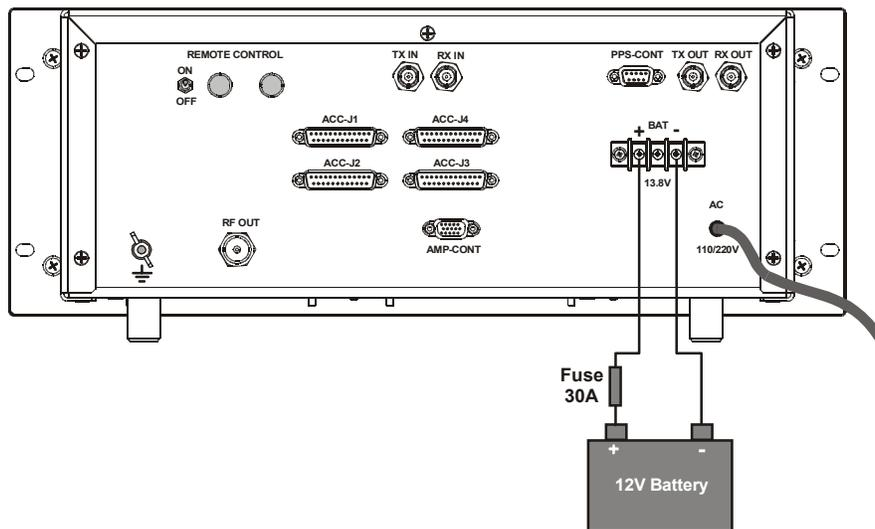
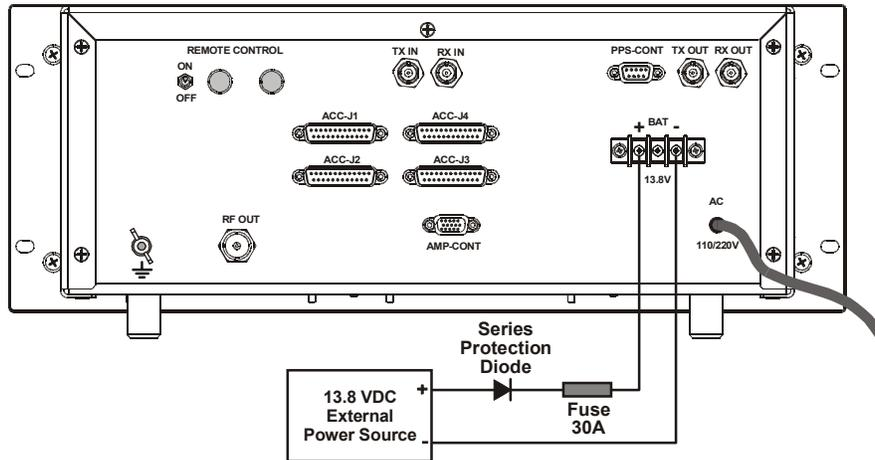

Figure 6. RM125/RM125R Connections to External Battery
Figure 7. RM125/RM125R Connections to DC Power Source
Figure 6 shows the connections to an external 13.8 VDC lead-gel or lead-acid battery, and Figure 7 shows the connections to an external DC power source. As the arrangements needed for these connections depend on the specific site, all the accessories required for the connections shown in these figures must be provided by the customer.
2. Refer to Figure 6 or Figure 7, as appropriate and start by making the connection to the negative (–) BAT terminal of the RM125/RM125R.